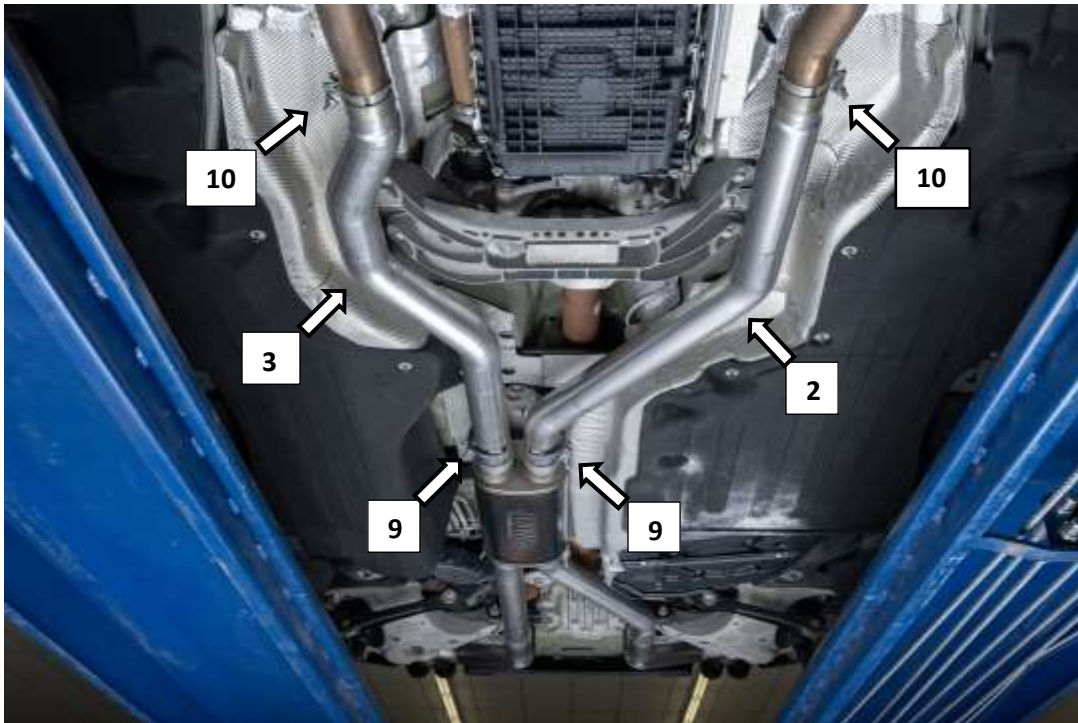

Figure 5
1. Install a supplied 2.5" band clamp **(10)** on to the reduced and notched end of the left and right muffler inlet pipes **(2)(3)**. Position the clamp with the bolt on the outside of the pipe and the nut facing towards the ground. **Fig.5**
2. Install the Left Inlet pipe **(2)** and Right Inlet pipe **(3)** on to the pipe from the catalytic converter, while also aligning the hanger rods with the isolator assembly at the center of the car. Align the square notch with the alignment pin on the catalytic converter pipe and insert the pipe fully, until the pin is bottomed in the square notch. Tighten the clamps to allow for adjustment. **Fig.5**